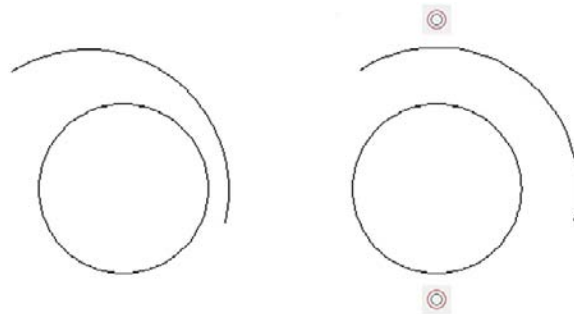

FIGURE 13.13
Step 1. Draw an arc and a circle, one above the other, as seen in Figure 13.13 (left).
Immediately after the selection of the arc, you see one or both snap to a concentric setting (their centers are the same) as seen in Figure 13.13 (right). Note that, if you selected the arc first, the circle would adjust to it, not the other way around. Selection order matters.